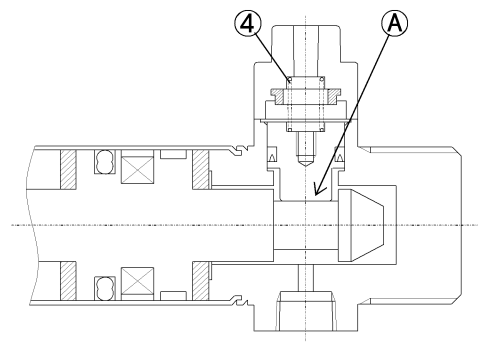

Fig.2
- (b) When the cylinder piston further nears the stroke's end and the stopper piston comes over the sleeve's groove ④, the spring ④ pushes down the stopper piston into the groove for locking (Fig.2).